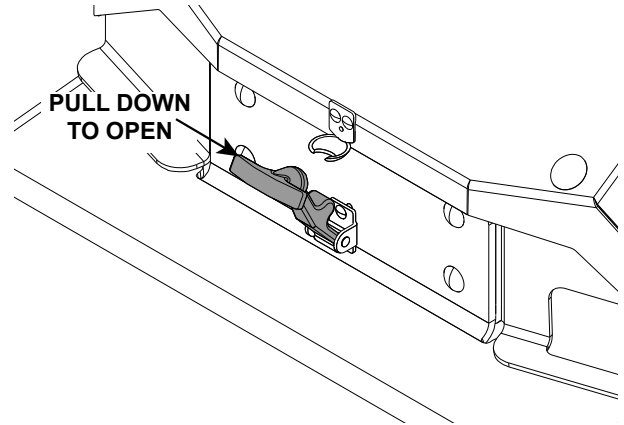

Figure 6-6. Open Hood Latch
1. Remove the draw latch. See Figure 6-6.